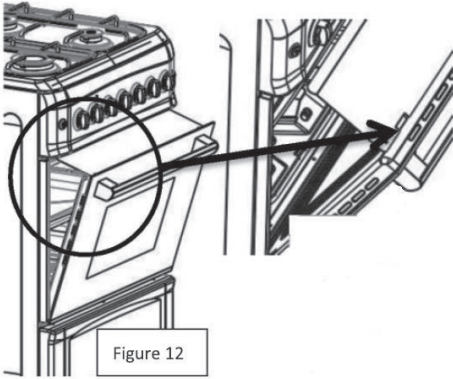

Figure 12
6. Place the grill deflector under the control panel by opening the oven door and locating the panel over the lugs as per the diagram below. The panel must be fitted with the symbol facing upwards. Then secure the grill deflector by gently closing the door. Use the grill deflector suitable for your product. (Figure 12 or Figure 13)